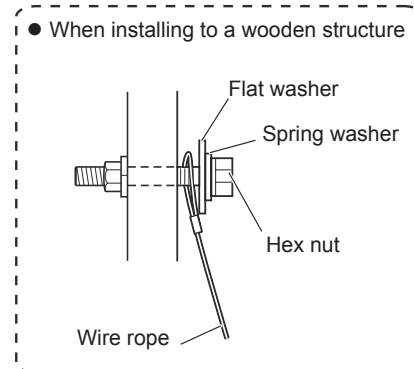

Fig.4
- When installing to a wooden structure, pass the loop at the end of the wire rope through the suspending bolt and firmly fix the suspending bolt to the wall. (Fig.4)